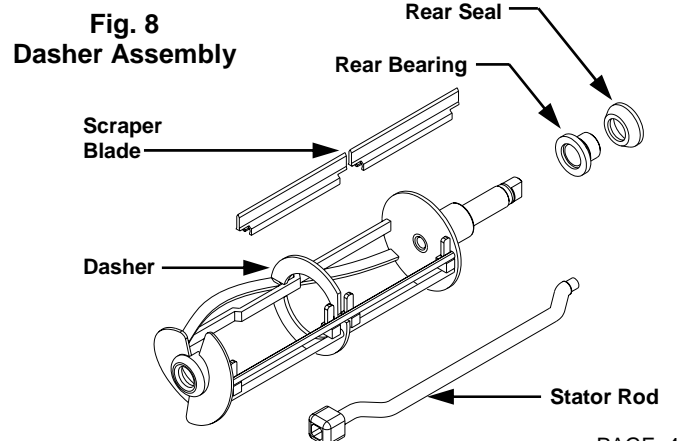

**Fig. 7
6. Remove the carburetor tube (Fig. 7) from the mix pan. Disassemble and clean in the following manner: